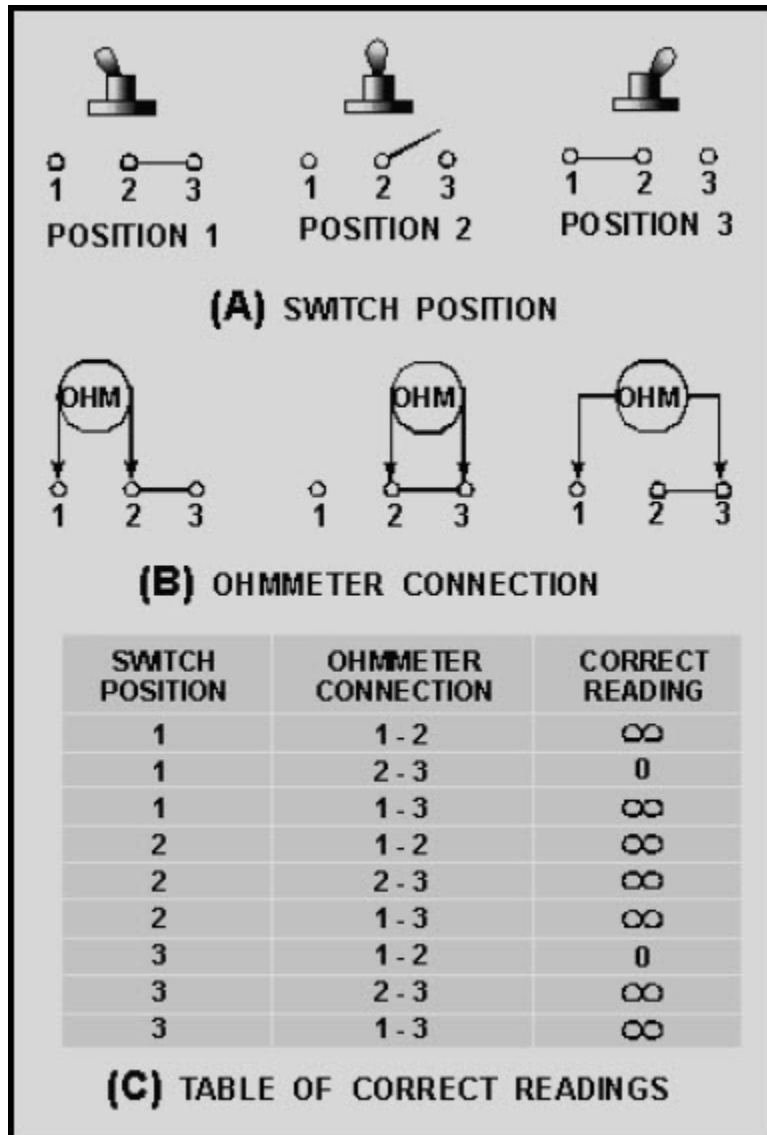

Figure 3-15 Table of correct readings
Figure 3-15 is used to explain the method of using an ohmmeter to check a switch. Figure 3-15(A) shows the toggle positions and schematic diagrams for the three switch positions. Figure 3-15(B) shows the ohmmeter connections used to check the switch while the toggle is in position 1. Figure 3-15(C) is a table showing the switch position, ohmmeter connection, and correct ohmmeter reading for those conditions.